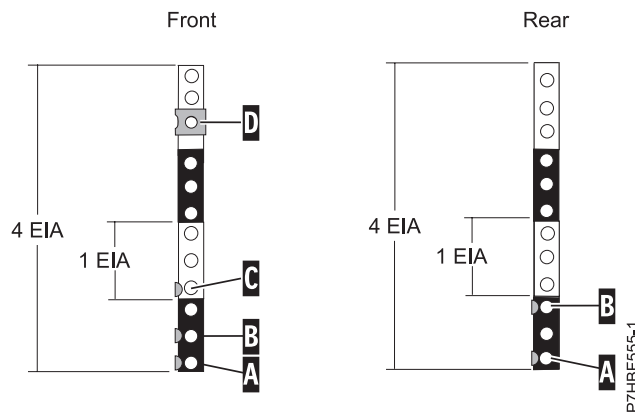

Figure 3. Marking holes on the front and rear of the rack frame
1. Facing the front of the rack and working from the right side, locate the bottom EIA unit that your expansion unit uses. Make a note of the EIA location. Use a tape, a marker, or a pencil to mark the bottom hole of this EIA unit as **A**, as shown in Figure 3. Mark the rack so the mark can also be seen from the rear of the rack.
2. Beginning with the hole identified by mark **A**, count up one hole and place a second mark as **B**. Mark the rack so that that mark can also be seen from the rear of the rack, as shown in Figure 3.
3. Beginning with the hole identified by mark **B**, count up two holes and place a third mark as **C**, as shown in Figure 3.
4. To install the nut clip, beginning with the hole identified by mark **C**, count up six holes and place a fourth mark as **D**. Install the nut clip at location **D** as shown in Figure 3.
8. Beginning with the hole identified by mark **A**, count up two holes and place a second mark as **B**, as shown in Figure 3 on page 5.